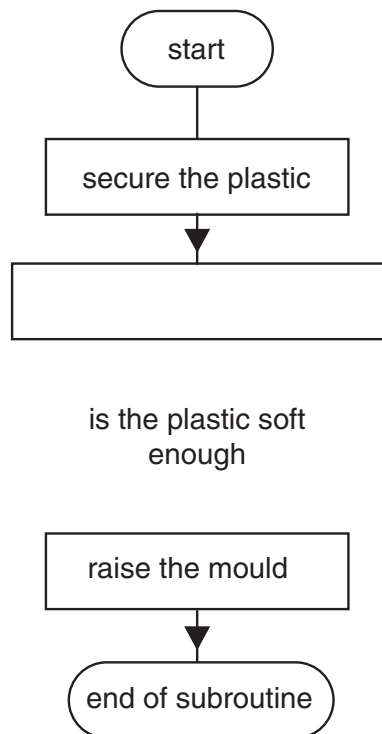

Fig. 10
- (d) Complete the part of the flowchart for the vacuum forming process shown in Fig. 10 using standard symbols and labels.